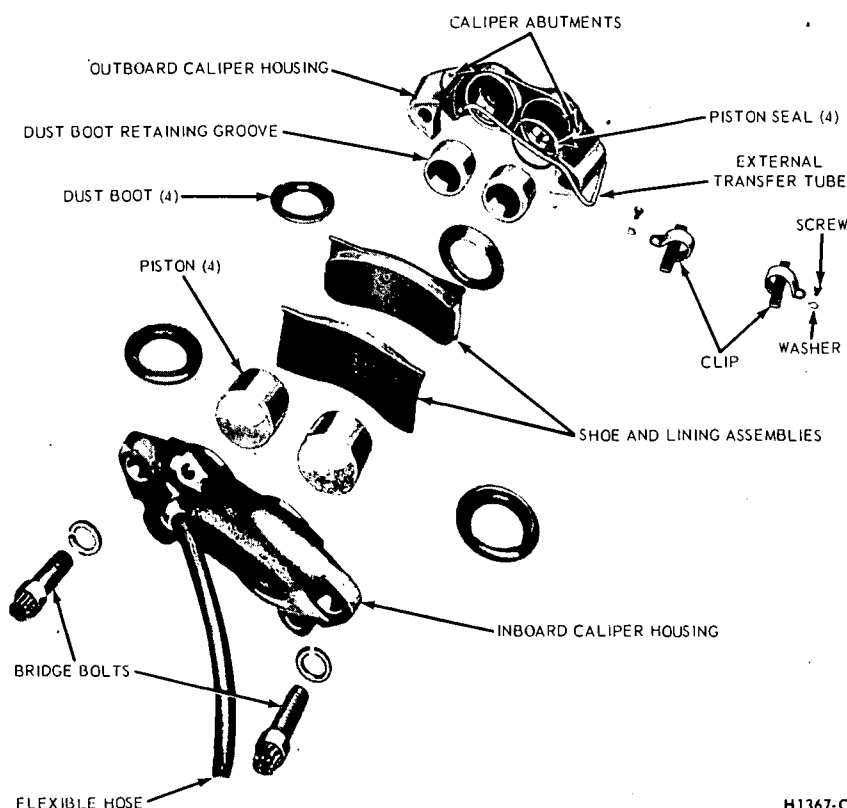

FIG. 46 —Caliper Assembly—Disassembled—Lincoln Continental
Do not remove the bridge bolts that hold the two halves of the caliper together. The two caliper housings are shown separated in Fig. 46 for illustration purposes only.
2. Remove the two attaching bolts and the caliper splash shield (Fig. 46).
If a piston is so completely seized in the cylinder bore that it can not be removed with the special tool, the caliper housing must be replaced, by positioning two screwdrivers in the piston dust boot retaining groove and prying outward. To prevent cocking, tap the end of the piston lightly around the circumference with a hammer, while the prying force is being applied. Be careful to avoid damaging the dust boot retainer in the caliper housing (Fig. 46). If this method of removal is used, the pistons must be replaced.
Clean all metal parts with isopropyl alcohol or a suitable solvent (Fig. 46). Use clean, dry, compressed air to clean out and dry the grooves and passage ways. Be sure that the caliper
6. Carefully install four new dust boots on the caliper housings and pistons. Be sure that each boot is fully seated in the groove of its respective caliper housing and piston (Fig. 46). **Do not use the original dust boots.**